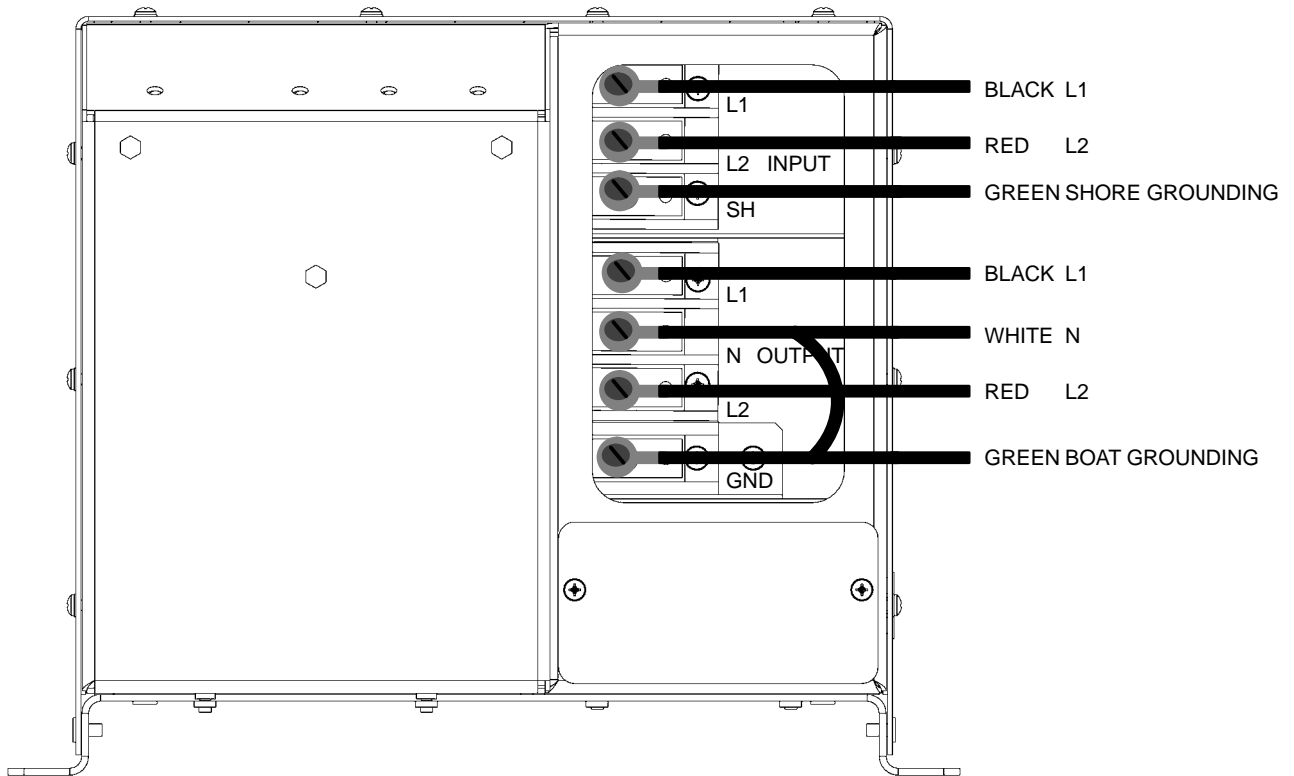
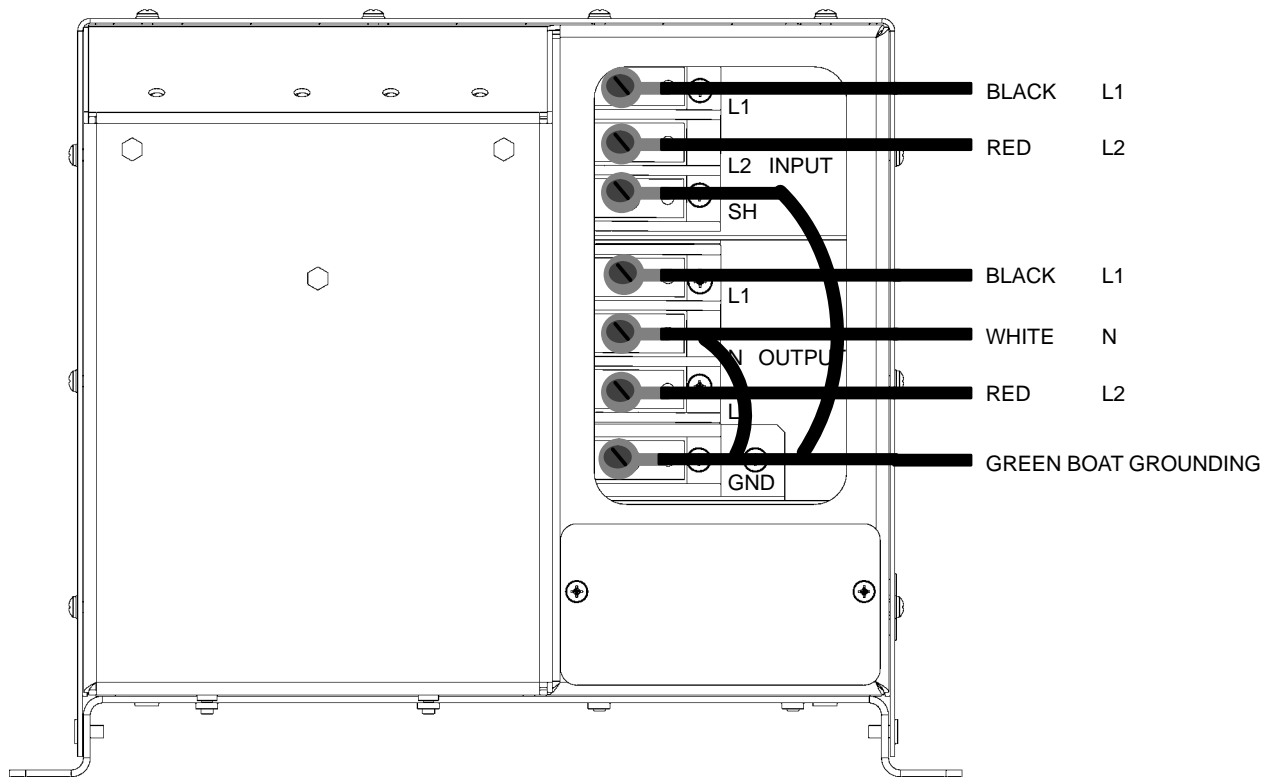
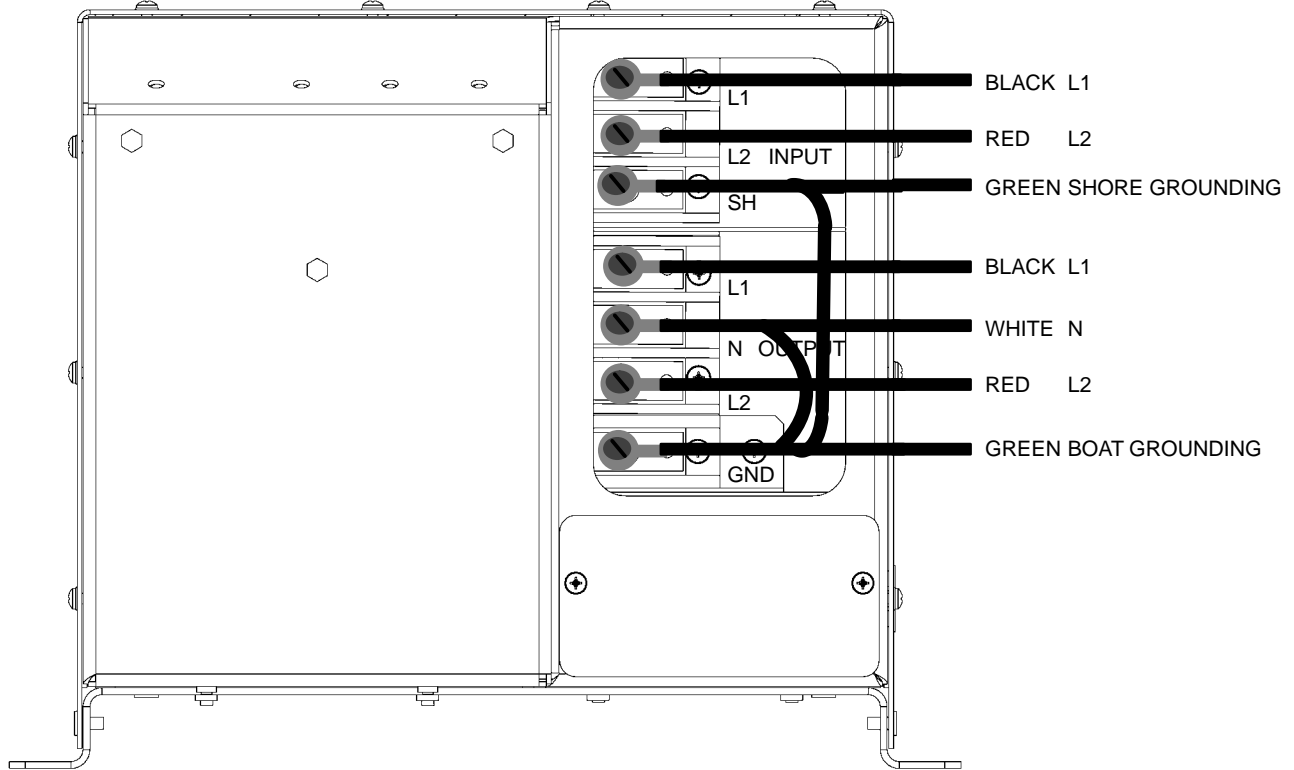
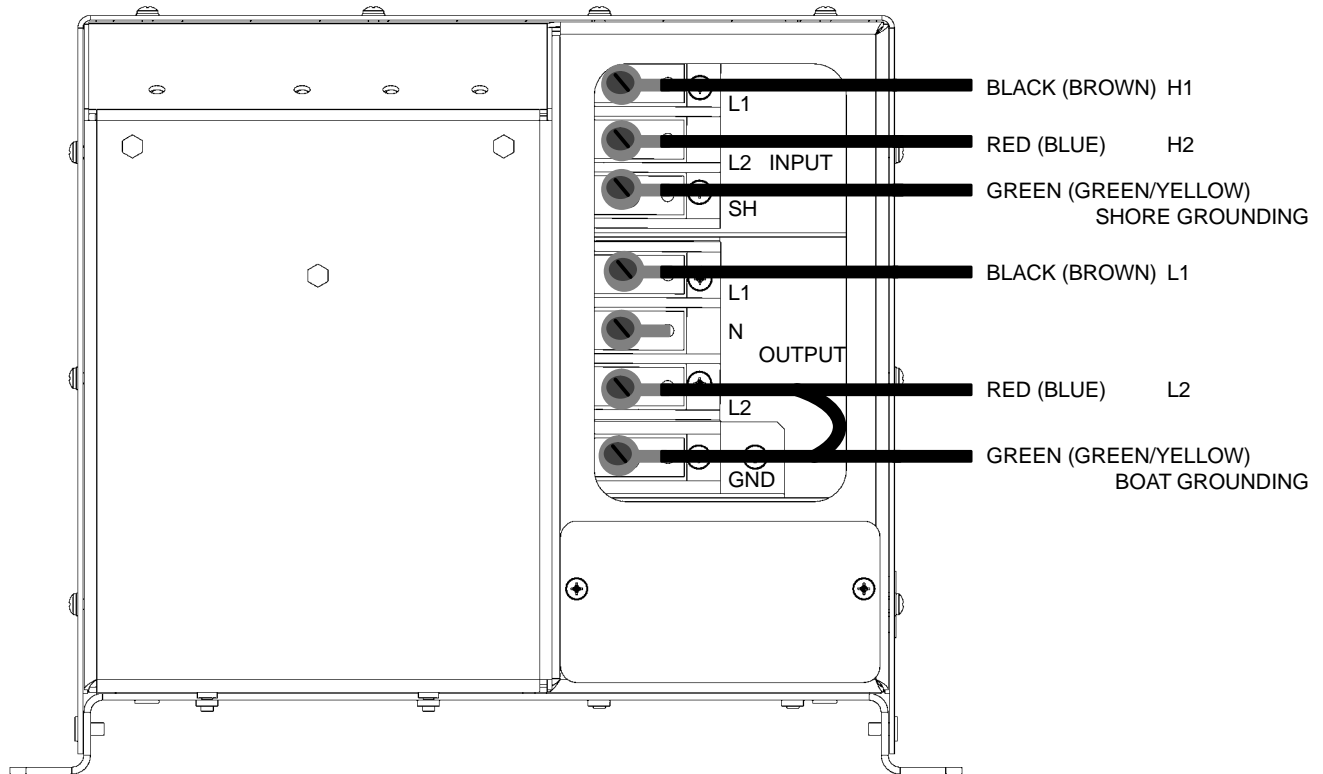

Figure 5. Typical Wiring as an Isolation Transformer – Method 1 (see Figure 1 for Electrical Diagram)
Figure 6. Typical Wiring as an Isolation Transformer with Primary Ground Fault Protector – Method 2 (see Figure 2 for Electrical Diagram)
Figure 7. Typical Wiring as a Polarization Transformer – Method 3 (see Figure 3 for Electrical Diagram)
Figure 8. Typical Wiring as European 3-Wire, Single Phase 230
8.	Connect all wiring as shown in Figure 5, Figure 6, Figure 7 or Figure 8 based on the chosen wiring method.